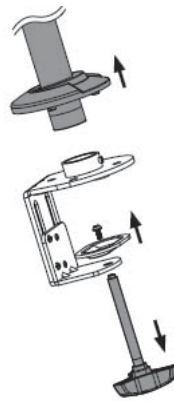

Figure 4
2. Rotate the Steel Tube counter clockwise to separate it from the C-Clamp. Remove the support plate from the clamp screw using a phillips screwdriver, see Figure 4.